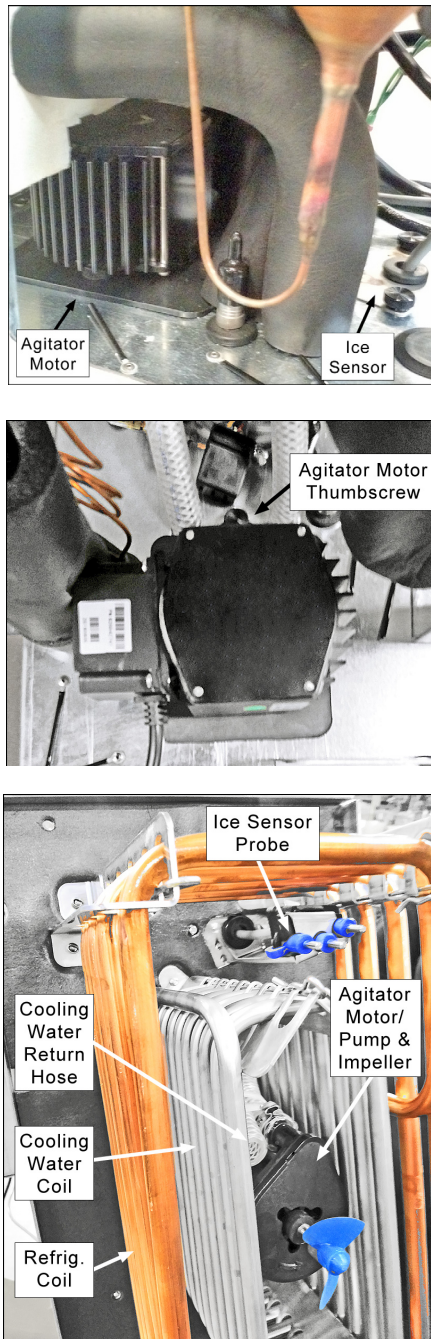

Figure 6-13 - Agitator Motor Location & Underside
The agitator motor is located centrally on the ice bank cover plate (Fig. 6-13). Obtain the most convenient access by removing the air compressor. Remove the thumbscrew shown to unfasten the agitator motor from its mounting.
5) Loosen the thumbscrew at the base of the agitator motor (Fig. 6-13).